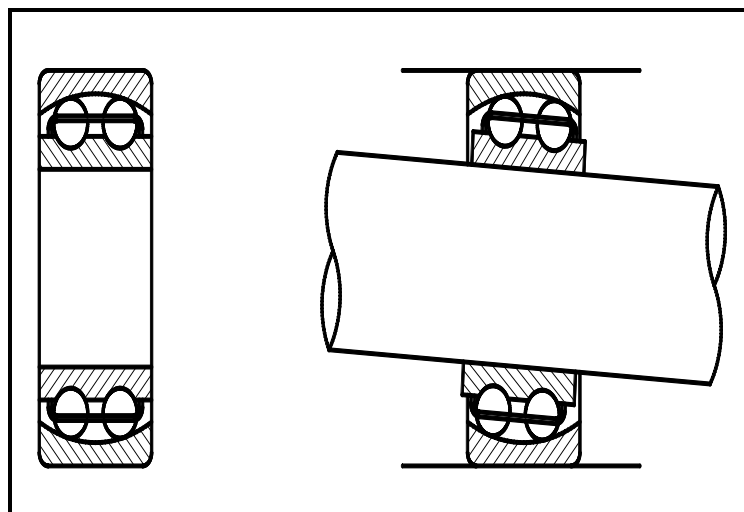

FIGURE 1.4
1.15 What is the function of the bearing in FIGURE 1.4 below?